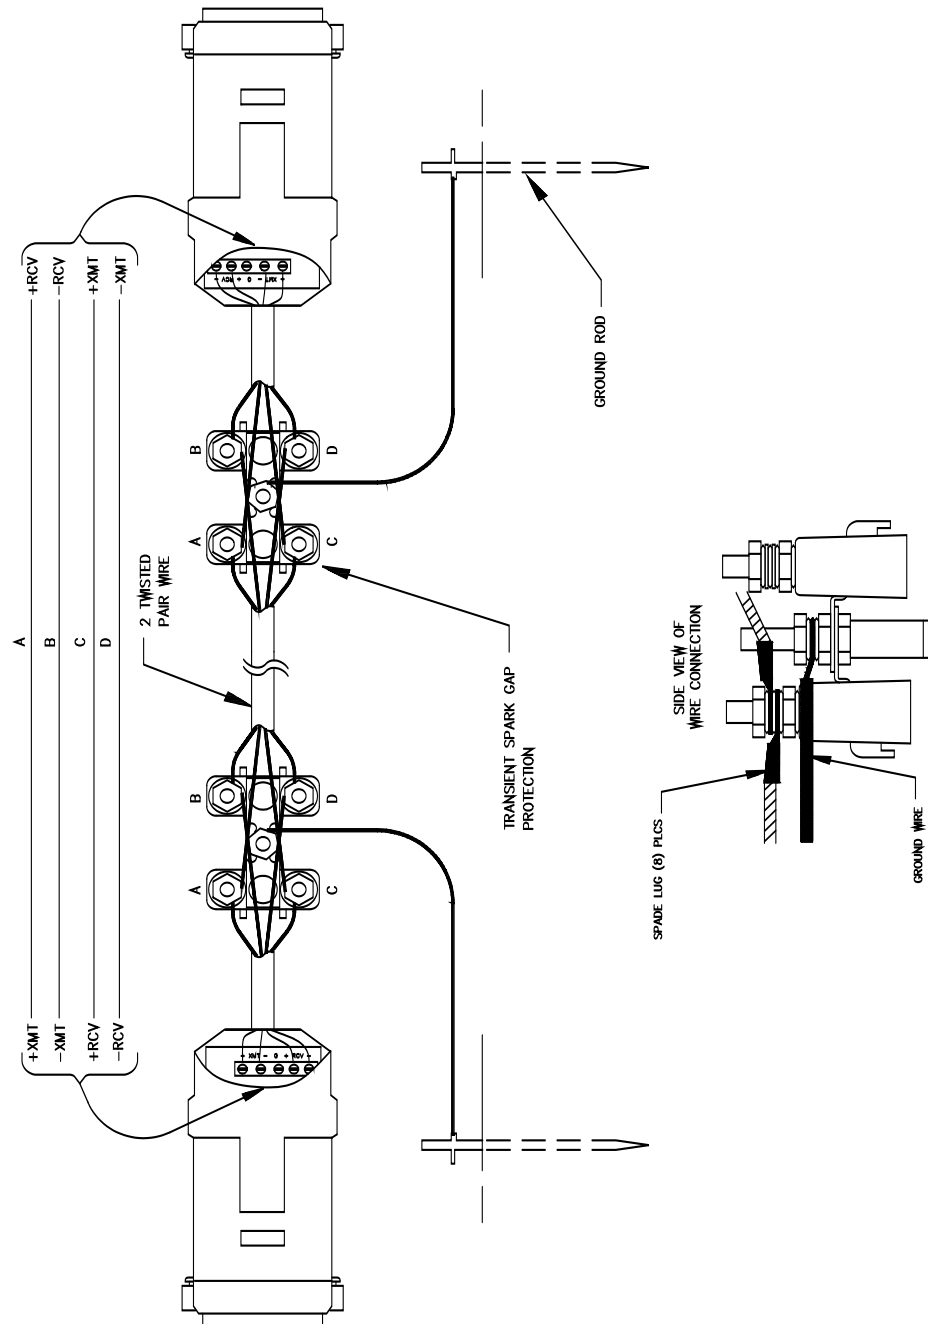

FIGURE 4-2. Installation of Spark Gap Protection
FIGURE 4-2 shows a typical setup of the RAD modems. Installation is as follows:
3. Wiring connections are made as shown in FIGURE 4-2. Note wires labeled A and B are one twisted pair of the cable. Wires labeled C and D are the other twisted pair.
4. Transients induced on the communication line may damage any electronics connected at either end of the line. To decrease the chances for damage, spark gaps should be installed as shown in FIGURE 4-2. The
transient protection shown may be purchased from Campbell Scientific (pn 5563 shown in FIGURE 4-2, pn 6536 includes a plastic case, pn 6361 includes hardware for mounting to ground lug of Campbell Scientific enclosures models ENC10/12, ENC12/14, or ENC16/18). Spark gap wiring is straight through such that pin to pin continuity exists between the two modems. If the modems are installed entirely within a building, the transient spark gap protection is probably not needed.